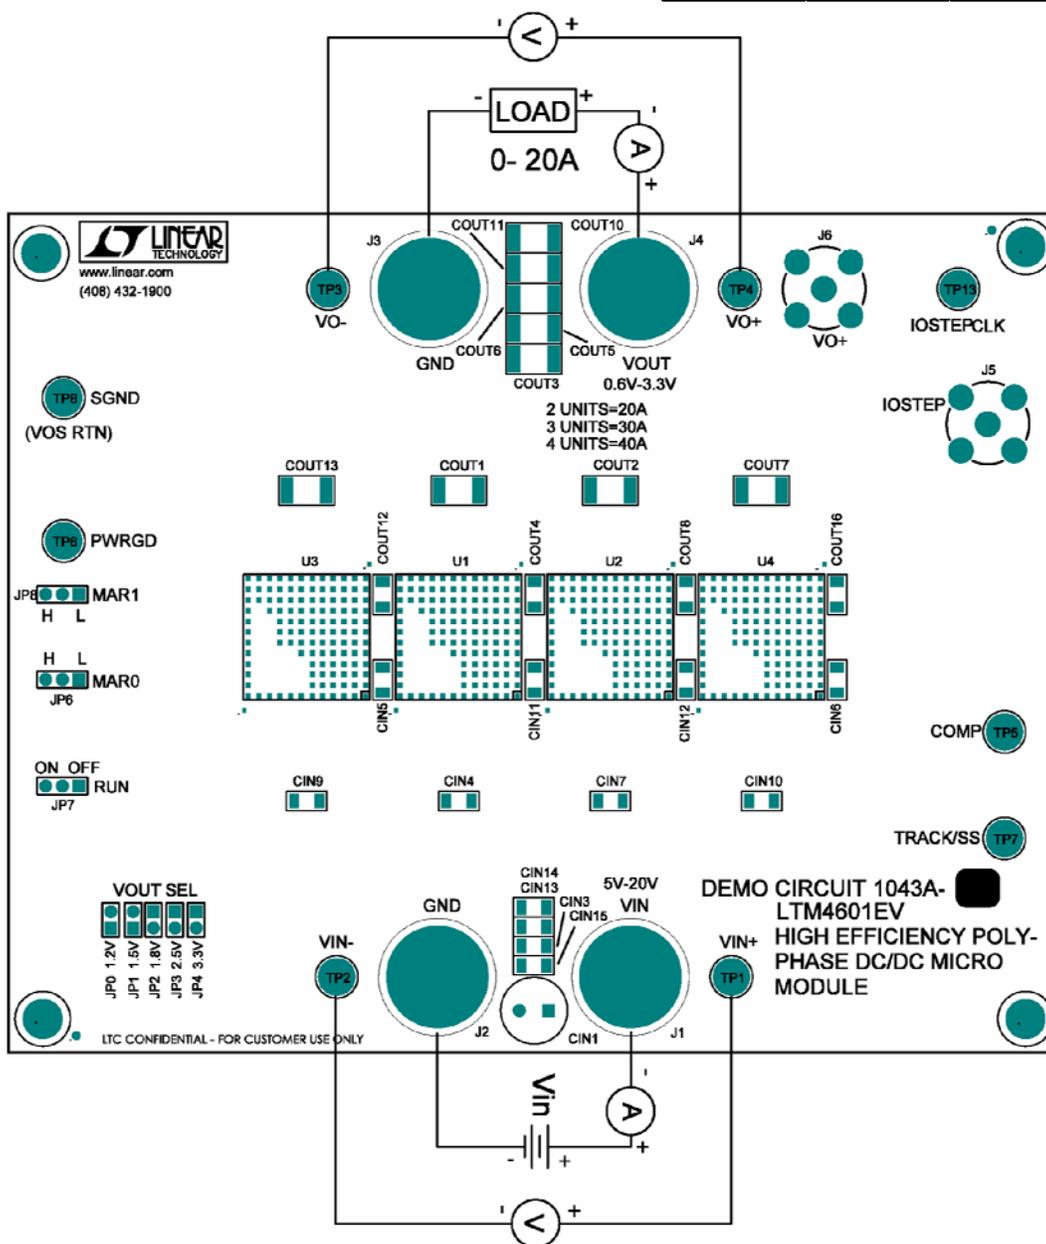

Figure 1. Test Setup of DC1043A-A
Demonstration circuit DC1043A-A is easy to set up to evaluate the performance of the LTM4601EV. Please refer to Figure 1 for proper measurement equipment setup and follow the procedure below:
2. With power off, connect the input power supply, load and meters as shown in Figure 1. Preset the load to 0A and V_{IN} supply to be less than 20V.